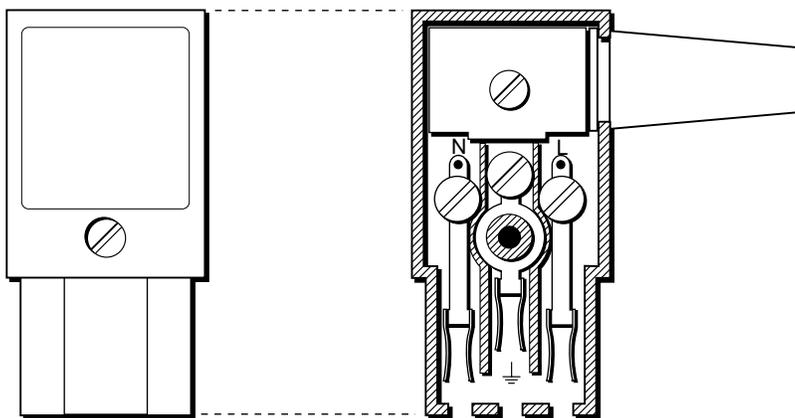

Figure 2-2. Internal View of AC Power Connector.
4. Insert the three wire ends of the power cable into the three holes of the block plug (see figure 2-2). Insert the Protective Earth ground (PE) wire, the neutral (N) wire, and the line (L) wire around the corresponding screw. Be sure that no bare wires are